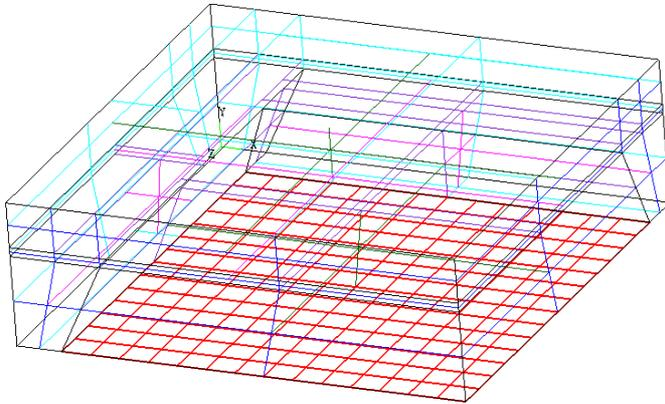
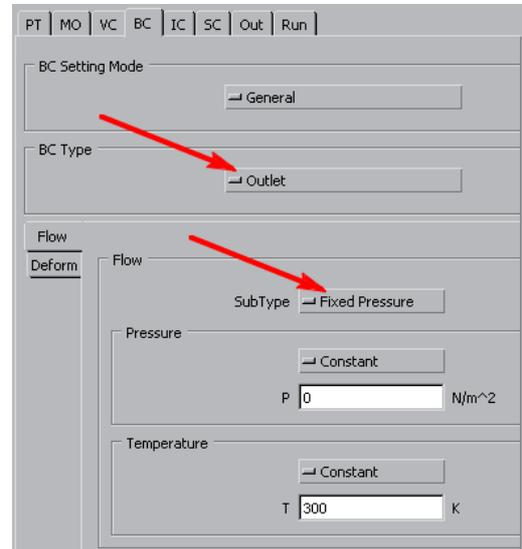

Fig.45. The view of the model – the contact surface between the membrane and the surroundings selected
Fig.46. The Boundary Conditions for the gas interface
5.5.2. The bottom surface of the air block under the membrane (see Fig. 45) should be defined as the *Outlet* type. This is the contact surface between the sensor and its surroundings. Moreover, the fluid flow through this surface is possible. With respect to these conditions we have to define additional subtype for this surface. In the *Flow* sub-tab select the *Fixed Pressure* option in the *SubType* position. Other parameters in the *Flow* field have to be set exactly as depicted in Fig. 46. ($P=0\text{Pa}$, $T=300\text{K}$)